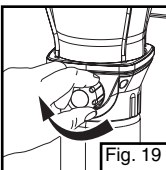

Fig. 19
- Turn fuel valve off. (Fig. 19)